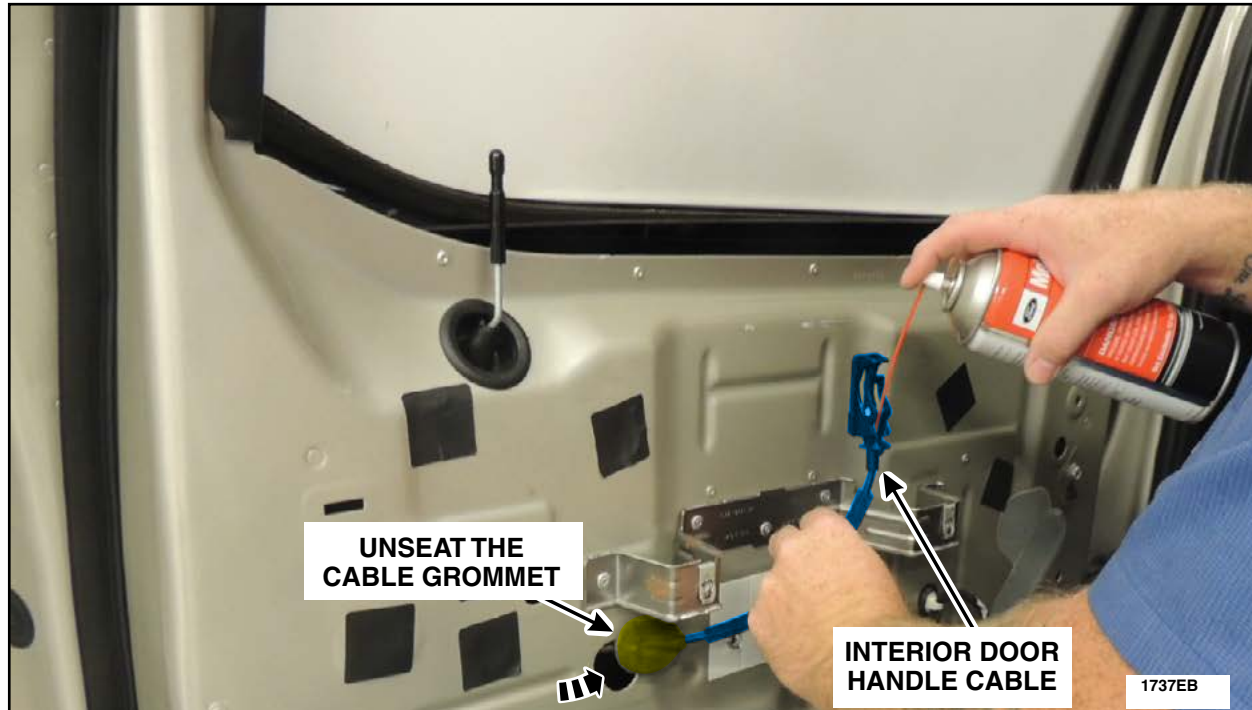

FIGURE 26
11. Unseat the interior door handle cable rubber grommet and while holding the end of the interior door handle cable in an upward position, spray Motorcraft® XL-6 silicone lubricant for five seconds down into the cable. See Figure 26.